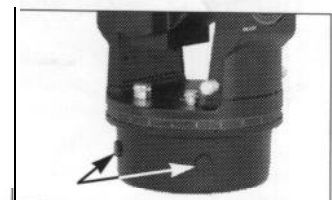

Fig. 2: ETX Drive Base, showing attachment holes.
b. In the side of the ETX drive base, locate the two attachment holes, Fig. 2. (These holes are normally used with the fixed legs of the table tripod.) Position the ETX on the Field Tripod so that the "N" tripod leg (8), Fig. 1, is between these two attachment holes.